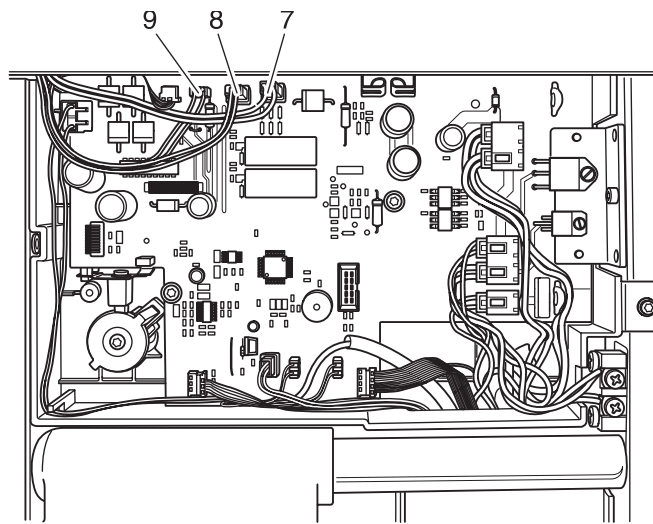

Fig. 5b
- Connect plugs 7, 8, 9 onto the circuit board (fig. 5b).